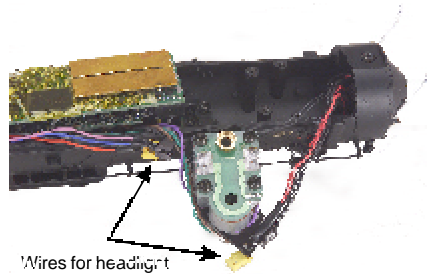

Figure 8: Headlight Wire Harness
1. To replace the headlight in this model you will need to follow the disassembly instructions for smoke unit maintenance in figure 5a on pg. 11. Once the smoke unit is removed you can access the wires for the headlight (see figure 8).